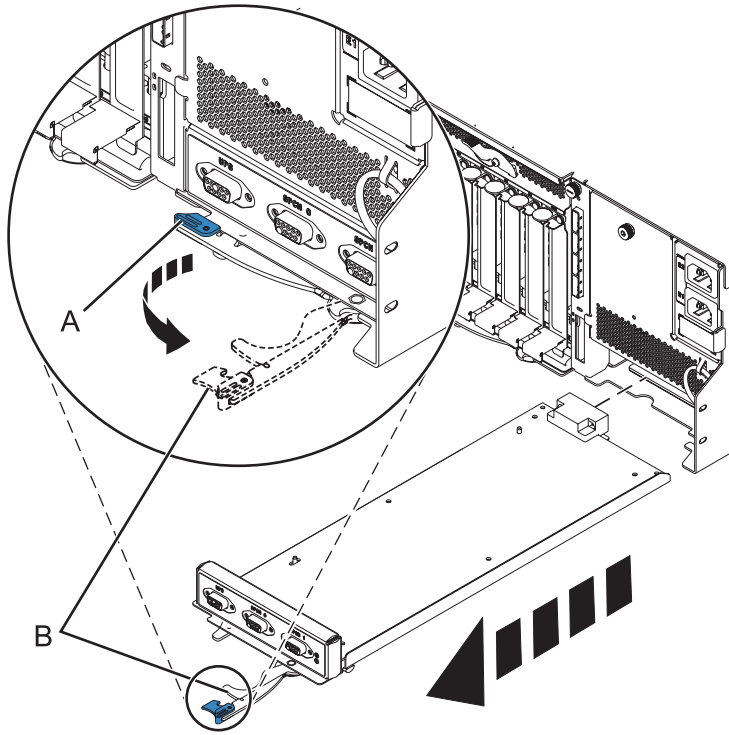

Figure 85. Remove the enclosure management controller
- b. Pinch the latch (A) to unlock the handle (B). See Figure 85 on page 121.